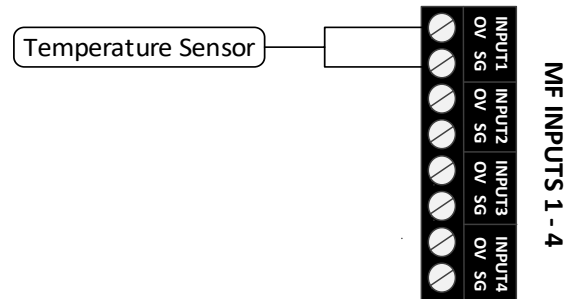
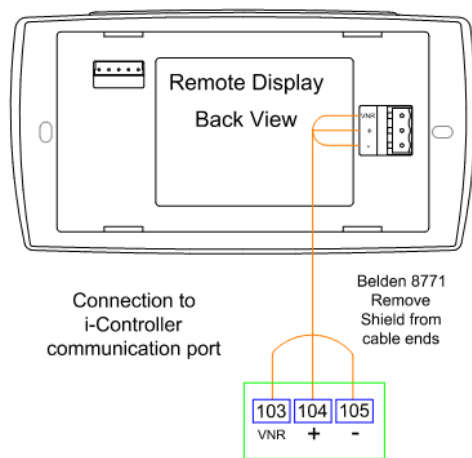

Figure 5. MF88AO Input Connector
Figure 7. Visograph Connections
The MF88AO board has four analog outputs. Each output will have a white signal wire connected to SG point and black common wire connected to the 0V point. See Figure 5. I-Controller point 21 – 30 are the analog outputs for devices requiring an analog 0-10V run signal. See Figure 7.
MF88AO has eight relay outputs. See Figure 5. Each output terminal has a normally open (NO) signal and a +24VAC common (C) wire connection.
After the +24VAC common connections are terminated, using Table 5, transfer each control signal point to the corresponding i-Controller output point located on pins 70 - 93. See Figure 7. Transfer one signal wire at a time from the old controller to the new point location on the i-Controller.